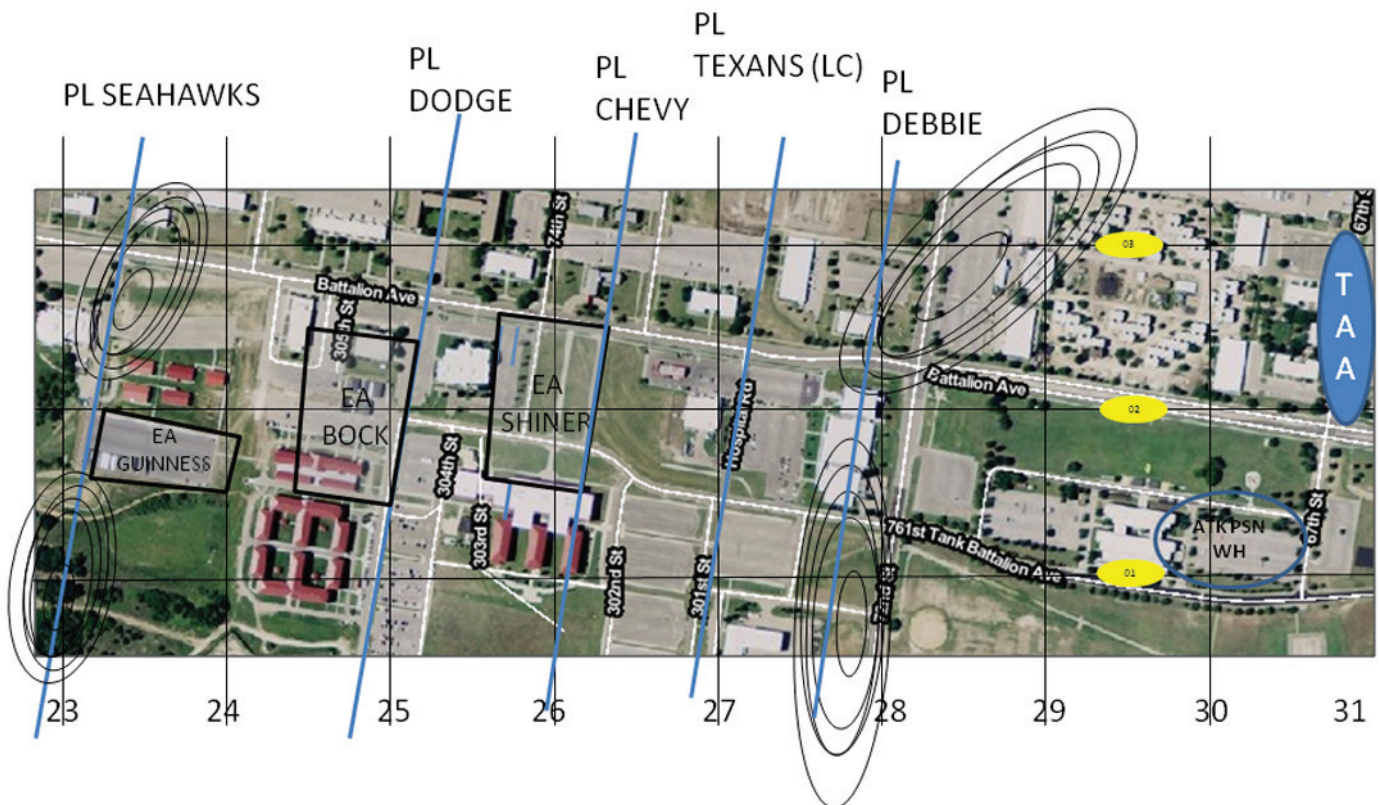

Figure 4. Battalion MTC transition to HDEF.
for PT. The audience was vehicle commanders for line companies, specialty platoons, tactical command post (CP) and TOC. My S-2 provided opposing force (OPFOR), wearing battalion PT shirts and armed with green chemlights, which indicated specific threats. For example, a chemlight buzzsaw indicated a Hind helicopter. (See Figures 4 and 5 for the MTC and the battalion's HDEF.)